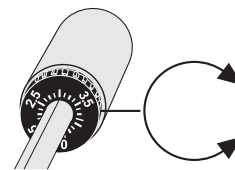

Fig. 6: Scale ring
- 6 The counterweight is provided with a black rotary ring with a scale. The marking line on the tone arm points to a value on this scale. Without turning the counterweight, only turn the ring to [0] (Fig. 6).